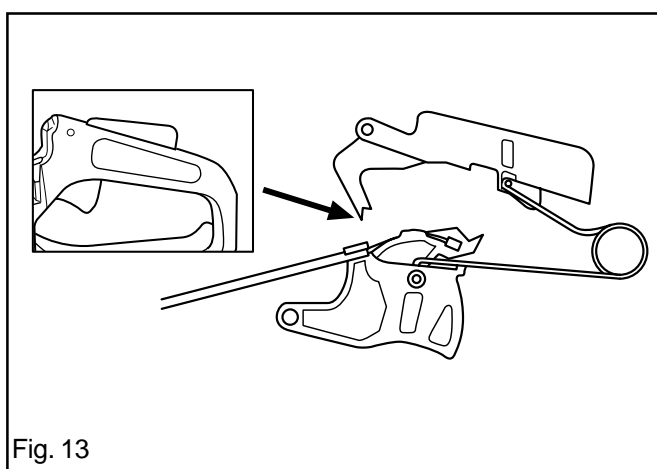

Fig. 13
3. Press apart with a screwdriver or the like the throttle lock/control and take out the throttle lock from the recess in the hand grip. Now remove the spring. See fig. 13.
2. That the lock activation mechanism is not worn. See fig. 13.